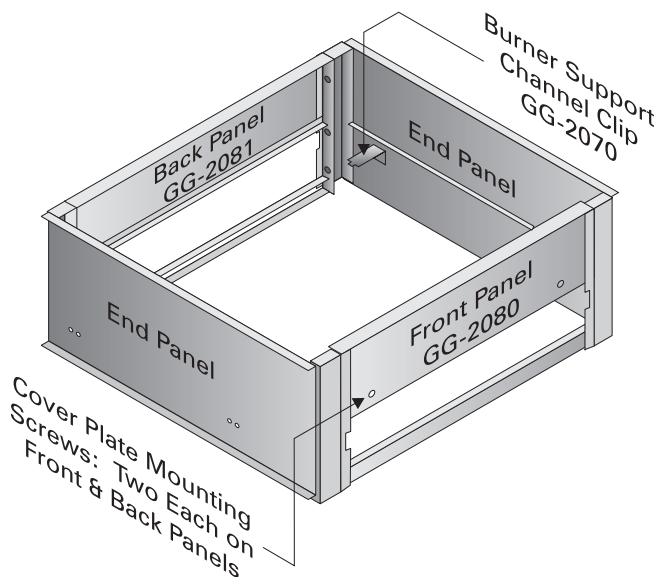

Figure 2.2: Steel Base Assembly
mount a Support Channel Clip toward the rear on each panel as shown in Figure 2.2 using 1/4"-20 x 1/2" (13 mm) long round head machine screws and 1/4" lock washers provided.
3. Attach the Front Panel and Back Panel (Figure 2.2) to the